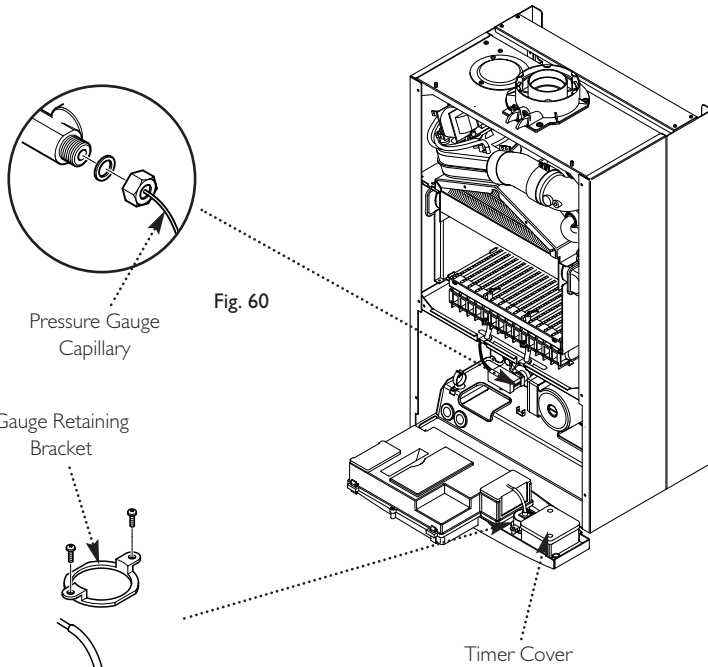

Fig. 60
12.15 Pressure Gauge (Figs. 60 & 61)